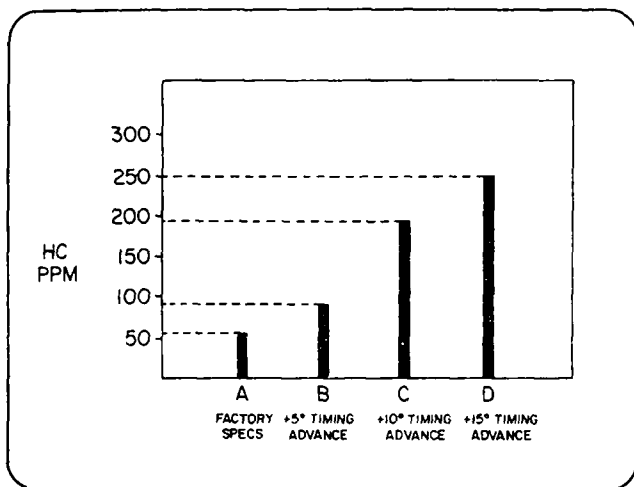

Figure 3-3
- a) Point A in Figure 3-3 shows the HC emissions when timing is set to factory specs. HC emissions were 60 PPM.